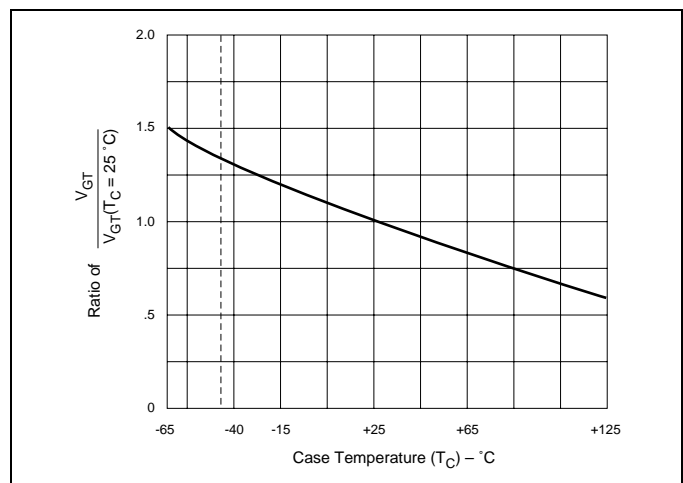

Figure E2.12 Normalized DC Gate Trigger Voltage for All Quadrants versus Case Temperature
- See Figure E2.12 for V_{GT} versus T_C .